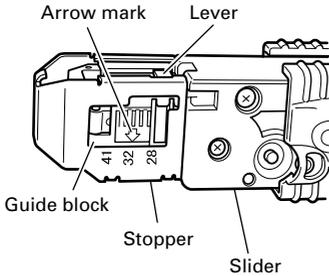

Fig. 1
1. Set the screw length (Fig. 1)